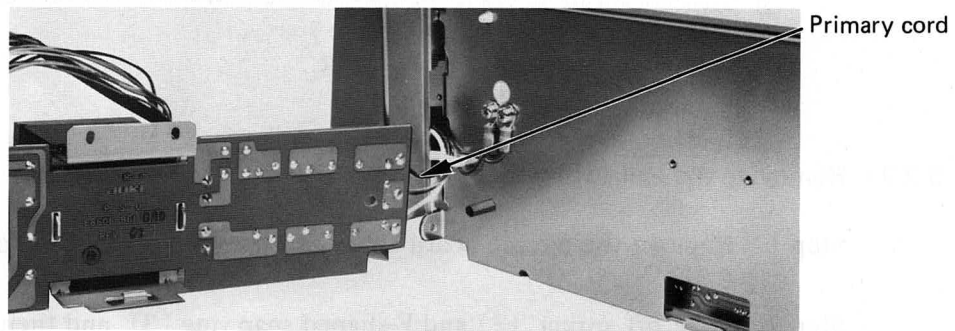

Fig. 5.36
Step 3. Release the hooks of the transformer to set the power unit free, and remove the solder on the circuit board of the primary cord. (Fig. 5.36)